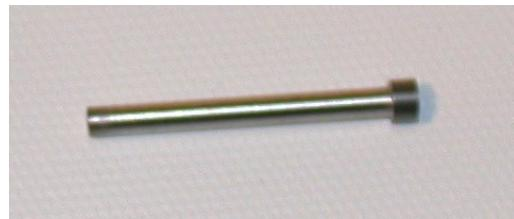

Figure 13 Spring Mounting Post
Step 2. Insert the spring support posts into the previously positioned anchor devices. One of the posts is depicted in Figure 13.